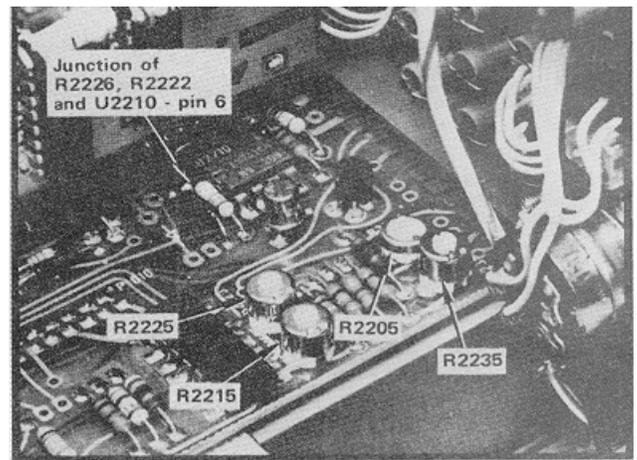

Fig. 4-12. Location of Vertical Control board test points and adjustments.
b. Connect the Input of a vertical amplifier plug-in unit (e.g., 7A18) through a 10X probe to pin 6 of U2210 on the Vertical Control board (Fig. 4-12 and Diagram 18).
e. While switching the step attenuator in 10 dB steps, to change the input signal level 10 dB, adjust Volts/Div Cal R2205 (Fig. 4-12) for a corresponding 1.0 V change (at pin 6) per 10 dB change of signal level. Return the step attenuator to 0 dB.
f. Select the LIN mode with a reference level of 1 mV/Div or higher, disconnect the CALIBRATOR signal from the INPUT and adjust Baseline Offset R2235 (Fig. 4-12) for 0 volt at pin 6 of U2210. Position this 0 V reference level at the top graticule line with the Vertical Position control.
h. With the REFERENCE LEVEL set as directed in step f, switch the Display Mode to 2 dB/DIV and adjust 2 dB Offset R2215 (Fig. 4-12) so the output level at pin 6 is -8 volts. The output level of U2210, for all three modes, should match.